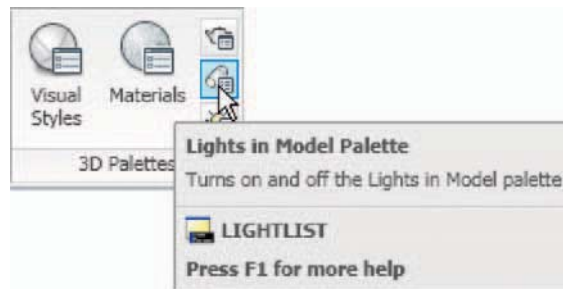
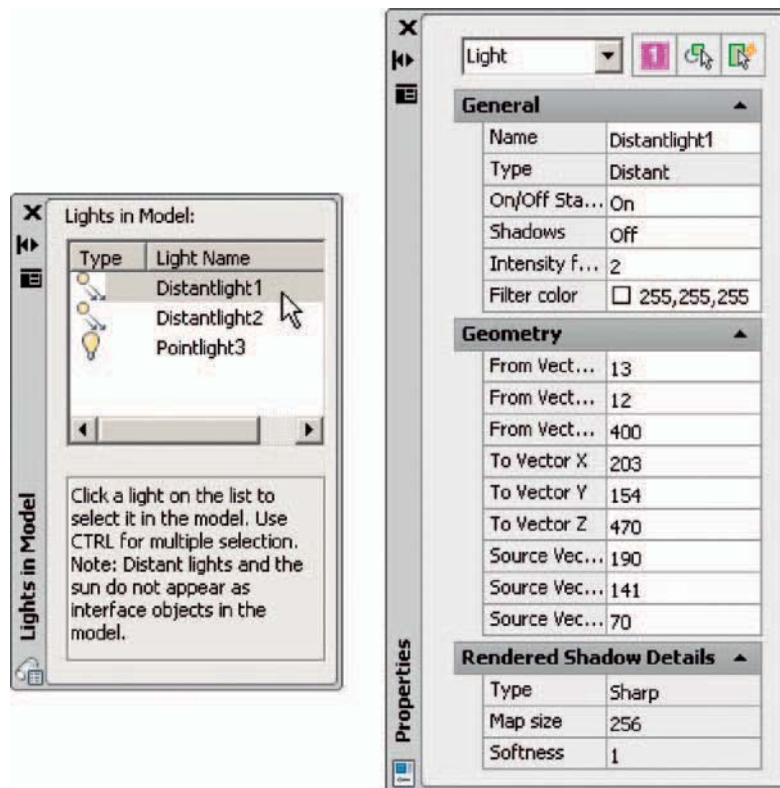

Fig. 15.31 Selecting Lights in Model Palette from the View/3D Palettes panel
Fig. 15.32 The Lights in Model and Properties palettes
7. When the model has been rendered, if a light requires to be changed in intensity, shadow, position or colour, *click* **Lights in Model** in the **View/3D Palettes** panel (Fig. 15.31) and the **Lights in Model Palette** appears (Fig. 15.32). *Double-click* a light name and the **Properties**
palette for the light appears in which modifications can be made (Fig. 15.32). Amendments can be made as thought necessary.